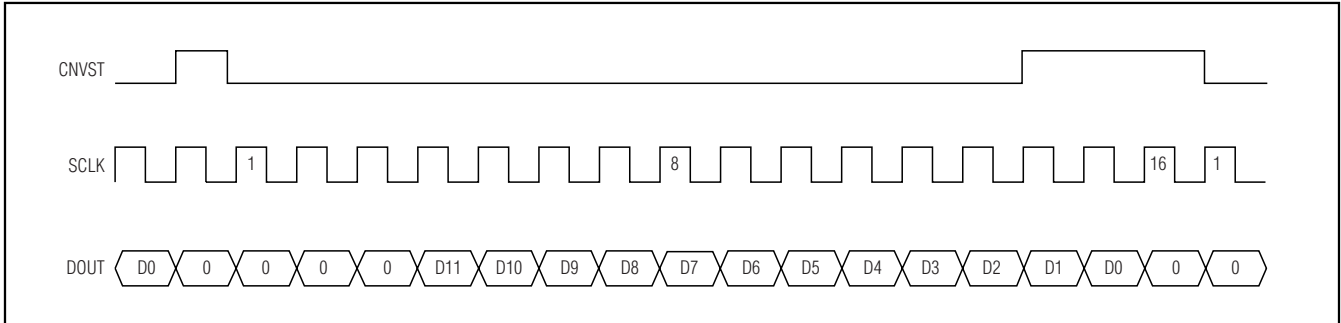

Figure 17. DSP Interface—Continuous Conversion
The MAX1332/MAX1333 can also be connected to the TMS320C54_ by using the data transmit (DX) pin to drive CNVST and the transmit clock (CLKX) generated internally to drive SCLK. A pullup resistor is required on the CNVST signal to keep it high when DX goes high impedance and write (0001)h to the data transmit register (DXR) continuously for continuous conversions. The power-down modes can be entered by writing (00FF)h to the DXR (see Figures 17 and 18).
high frame (LTFS = 0, LRFS = 0) signal. In this mode, the data-independent frame-sync bit (DITFS = 1) can be selected to eliminate the need for writing to the transmit data register more than once. For single conversions, idle CNVST high and pulse it low for the entire conversion. Configure the ADSP21_ _ _ STCTL and SRCTL registers for late framing (LAFR = 1) and for an active-low frame (LTFS = 1, LRFS = 1) signal. This is also the best way to enter the power-down modes by setting the word length to 8 bits (SLEN = 0111). Connect the DV_{DD} pin to the ADSP21_ _ _ supply voltage (see Figures 17 and 18).